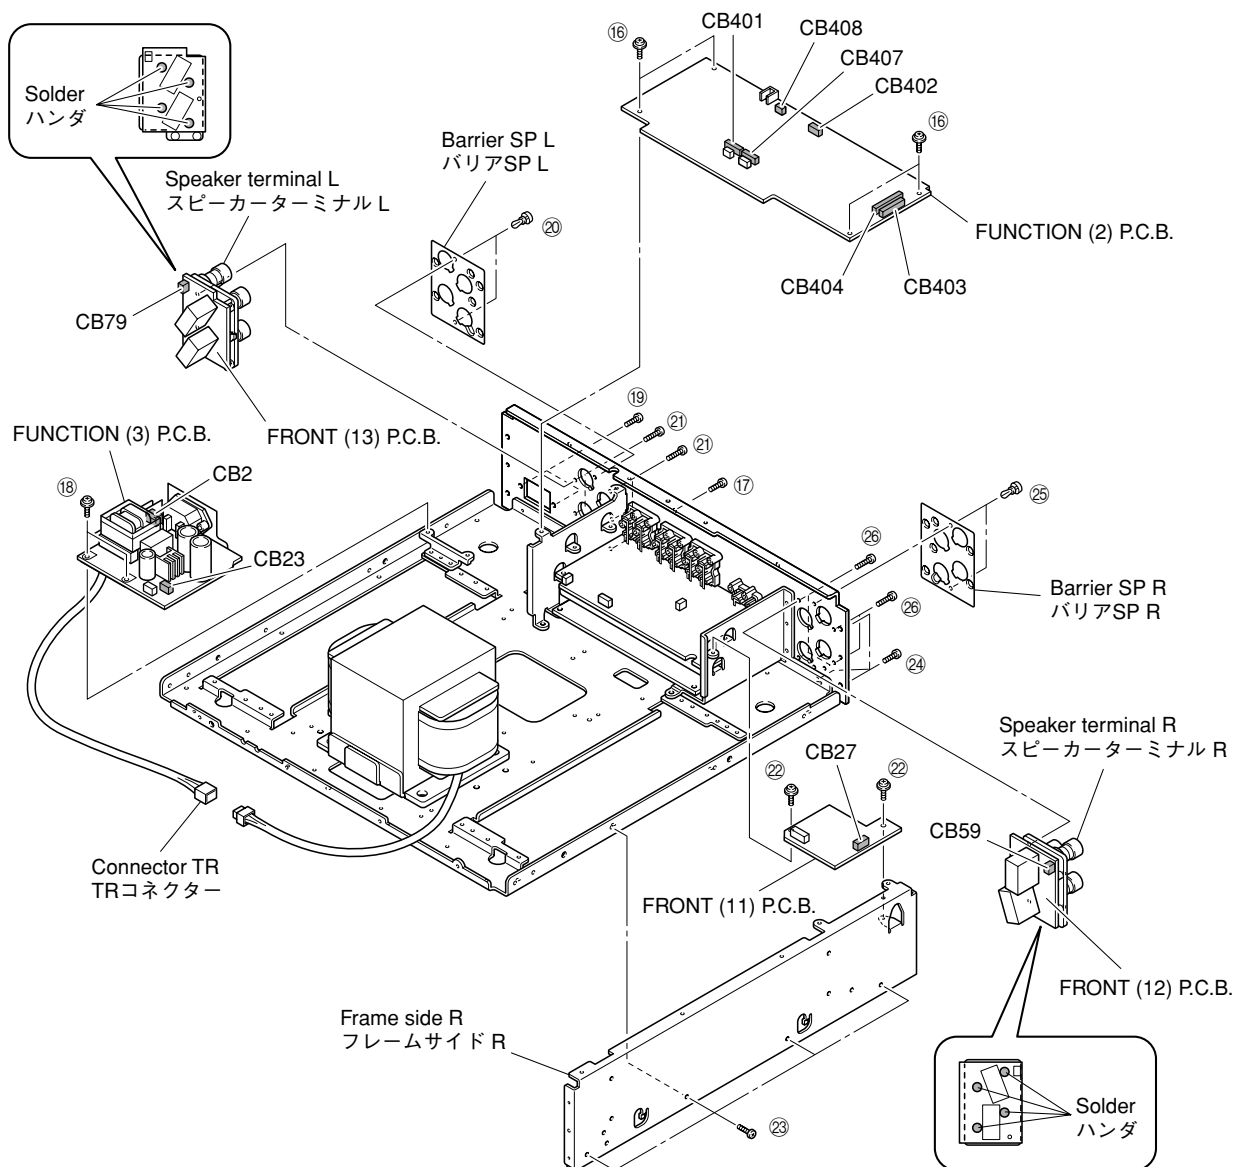
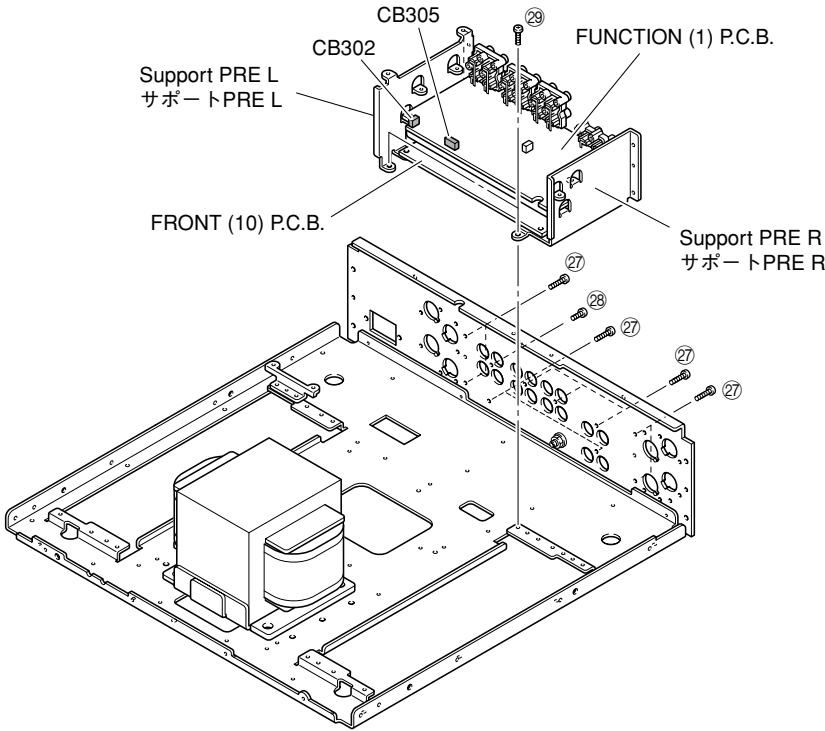

Fig. 8
Fig. 10
7. Removal of FUNCTION (2) P.C.B.
- Remove 4 screws (16) and screw (17). (Fig. 8)
- Remove CB401-404, CB407 and CB408. (Fig. 8)
- Remove the connector TR. (Fig. 8)
- Remove FUNCTION (2) P.C.B.. (Fig. 8)
7. FUNCTION (2) P.C.B.の外し方
- 16のネジ4本、17のネジ1本を外します。(Fig. 8)
- CB401-404、CB407、CB408を外します。(Fig. 8)
- TRコネクタを外します。(Fig. 8)
- FUNCTION (2) P.C.B.を取り外します。(Fig. 8)
- a. Remove 2 screws (18) and 2 screws (19). (Fig. 8)
- b. Remove CB2, CB23 and CB79. (Fig. 8)
- c. Remove FUNCTION (3) P.C.B.. (Fig. 8)
- d. Remove 2 push rivets (20) and then remove the barrier SP L. (Fig. 8)
- e. Remove 5 screws (21). (Fig. 8)
- f. Remove the speaker terminal L together with the P.C.B.. (Fig. 8)
- g. Unsolder the P.C.B. to separate the speaker terminal L. (Fig. 8)
- h. Remove 2 screws (22). (Fig. 8)
- i. Remove CB27. (Fig. 8)
- j. Remove FUNCTION (11) P.C.B.. (Fig. 8)
- k. Remove 4 screws (23) and 3 screws (24). (Fig. 8)
- l. Remove frame side R. (Fig. 8)
- m. Remove 2 push rivets (25) and then remove the barrier SP R. (Fig. 8)
- n. Remove 5 screws (26). (Fig. 8)
- o. Remove CB59. (Fig. 8)
- p. Remove the speaker terminal R together with the P.C.B.. (Fig. 8)
- q. Unsolder the P.C.B. to separate the speaker terminal R. (Fig. 8)
- a. 18のネジ2本、19のネジ2本を外します。(Fig. 8)
- b. CB2、CB23、CB79を外します。(Fig. 8)
- c. FUNCTION(3)P.C.B.を取り外します。(Fig. 8)